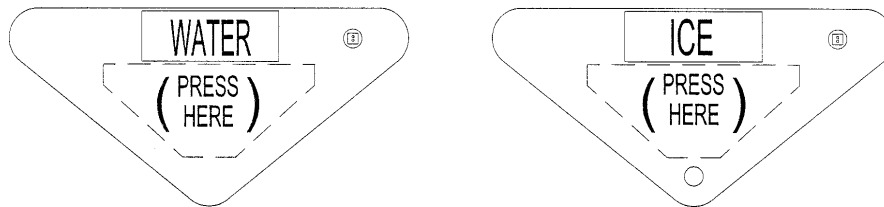

Fig. 4
- Check that the ice dispensing switch and the water dispensing switch are operating correctly. See Fig. 4.